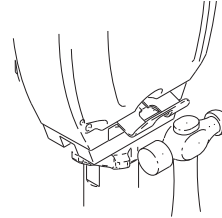

FIG. 25
6. Loosen locknut by hitting firmly with a 20 oz (maximum) hammer (FIG. 25). Unscrew pump.